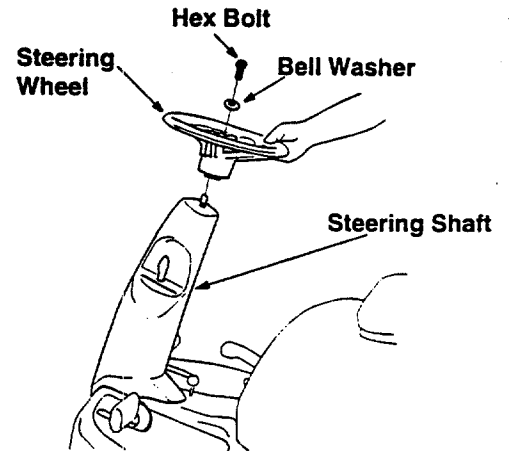

Figure 8
- With the wheels of the tractor pointing straight forward, place the steering wheel over the steering shaft, positioning the steering wheel as desired. See Figure 8.